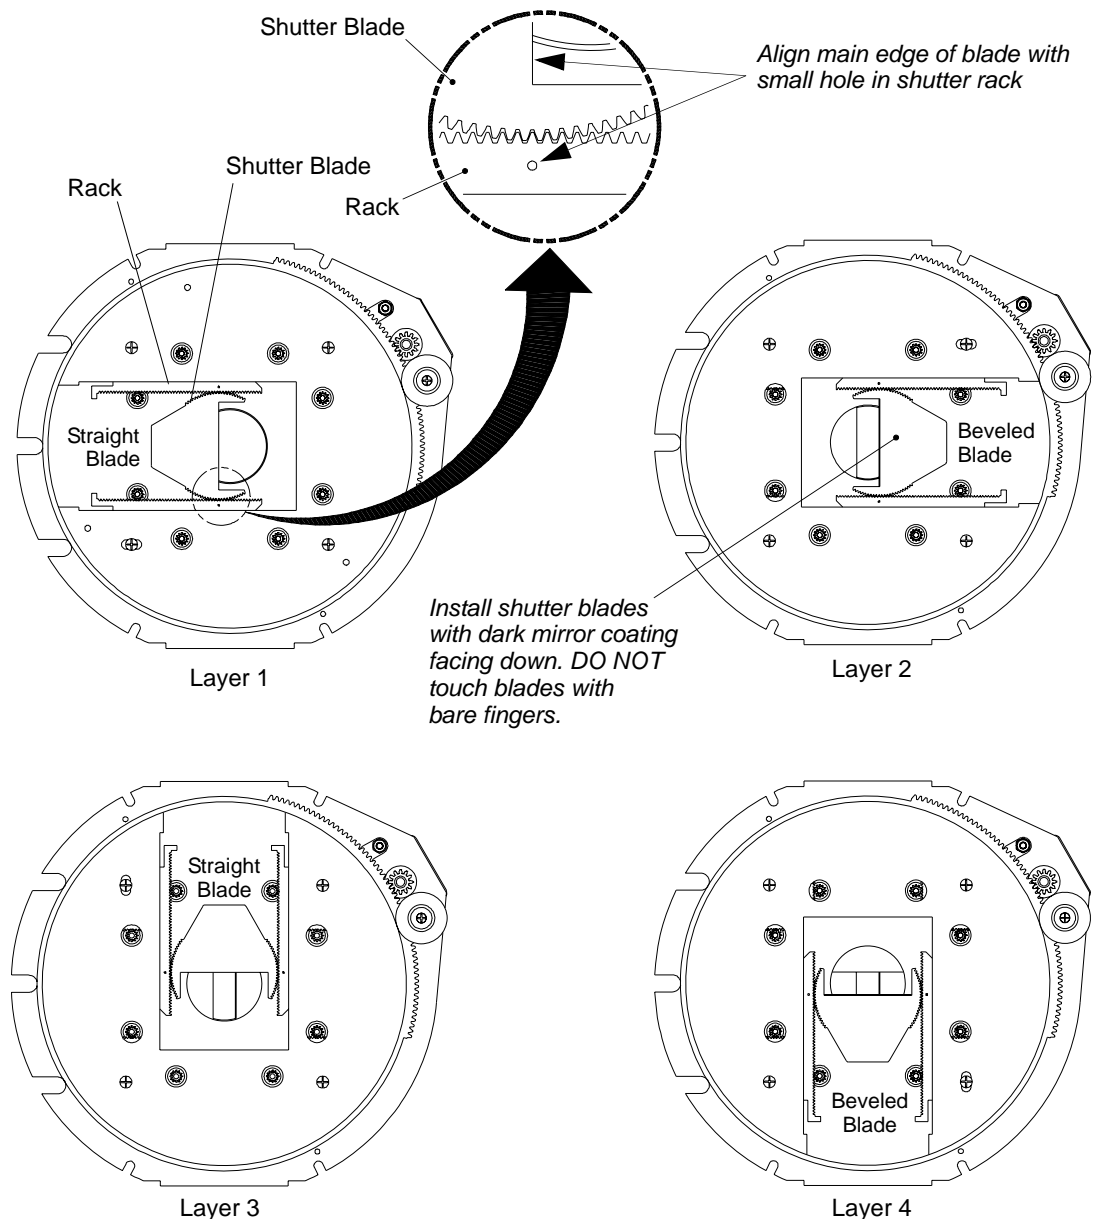

Figure 2-17: Shutter Assembly Layer Orientation
- Step 5. Re-assemble shutter's four layers. Ensure that components are oriented and aligned as shown in **Figure 2-17**.